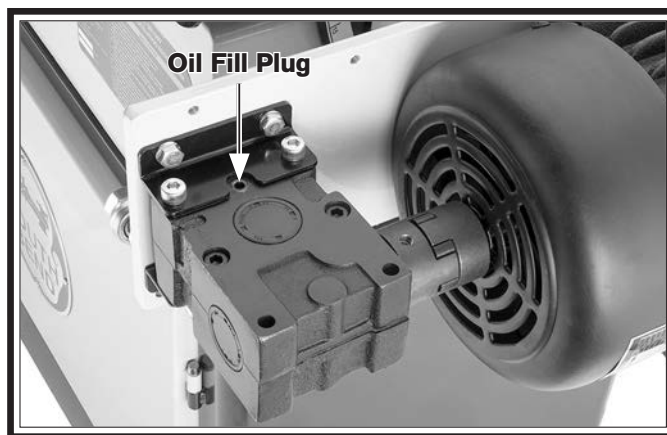

Figure 77. Gearbox oil fill plug location.
5. Remove oil fill plug on top of gearbox (see **Figure 77**) and dip clean hex wrench about 1" into hole.